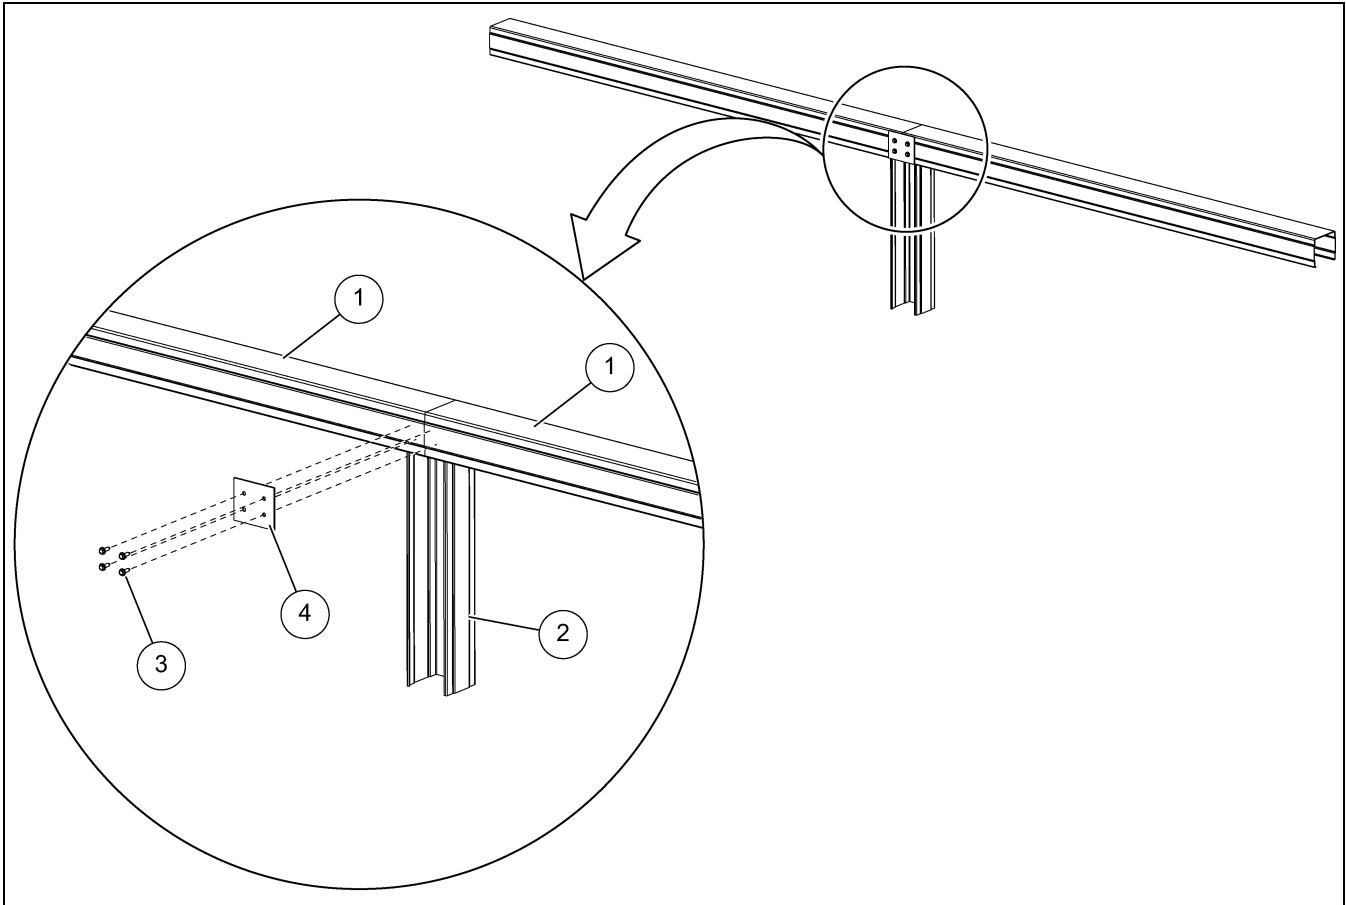

Figure 4H *Installing the Monorail Splice Plate*
3. Use the four self-tapping screws (3) and the monorail splice plate (4) on the other side of the monorail joint as shown in Figure 4H. (**NOTE:** See the orientation of the monorail leg (2) in Figure 4H.)